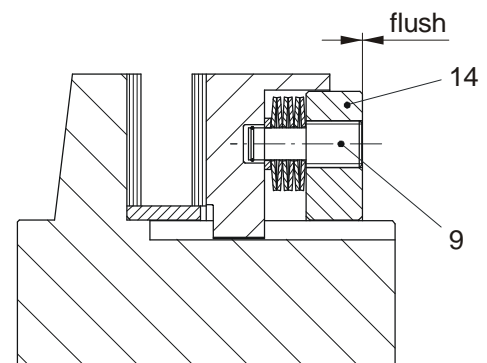

Fig. 23
Then the cup spring suspension bolts (9) are turned in evenly, in steps of approximately 1/4 turns, until they are flush with the adjusting nut (14) (Fig. 23).